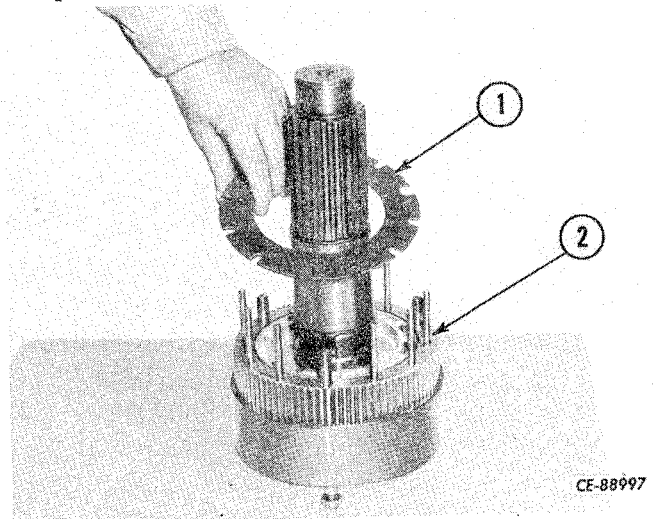

Figure 4-133
Position the spring retainer plate (1, Fig. 4-133) on the cylinder (2), aligning the grooves in the plate with the studs and spring guides.